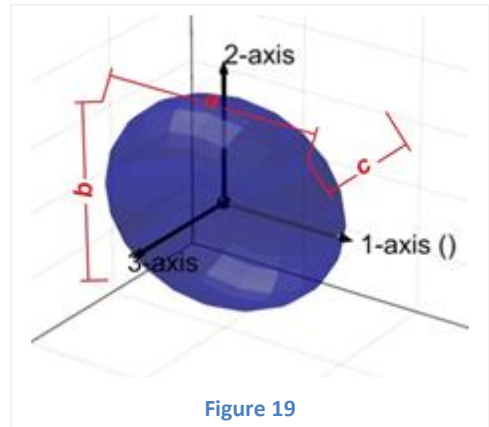

Figure 19
- 2) An ellipsoid with homogenous density and mass  $m$ . It is defined in body fixed coordinates as well as centered and aligned with the axes of this coordinate system. The lengths of the principle axes are  $a$  along the 1-axis,  $b$  along the 2-axis, and  $c$  along the 3-axis. See Figure 19.